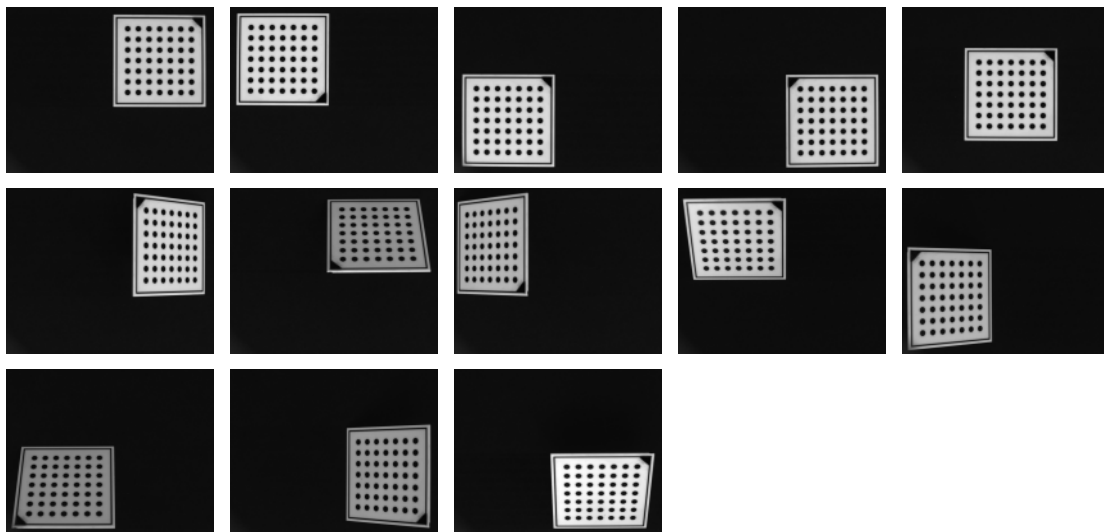

Figure 6.1: Example for suitable calibration images.
9. Use various orientations of the calibration plate: Use at least four images with different tilt in every direction as shown in Figure 6.1 (we recommend to tilt the plate in every quadrant of the image twice and vary the tilting direction).